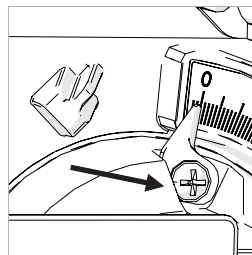

Fig. 24
- Loosen the Bevel Pointer screw using a #2 Phillips screwdriver. (**Fig. 24**)